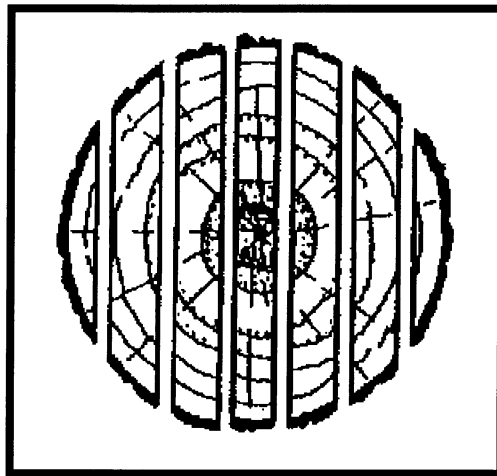

Figure 2.2.3
- 2.2.3 Figure 2.2.3 shows the cross-cutting method.